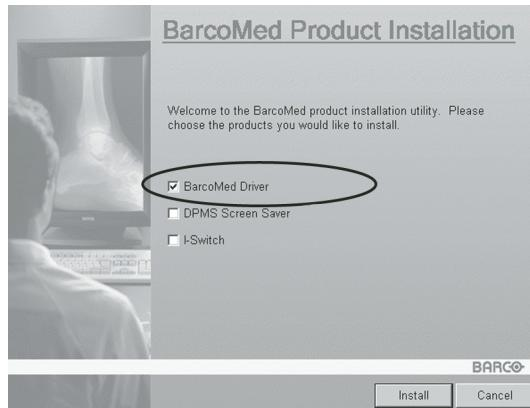

Figure 51
3. Make certain that the checkbox next to the driver is checked and that all other checkboxes are unchecked (see figure 51 on page 132). Click “**Install**” to continue.